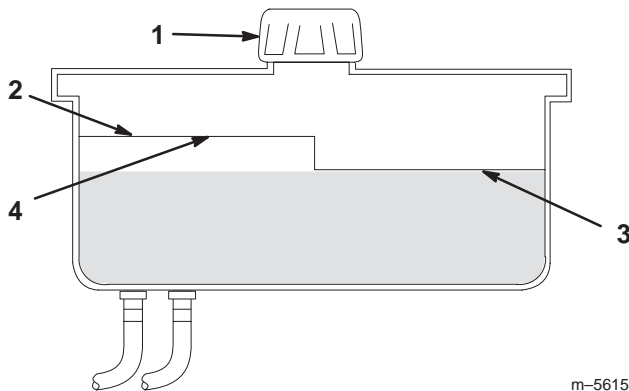

Figure 49
2. Clean area around filler neck of hydraulic tank (Fig. 49).
3. Remove cap from filler neck. Look inside to check if there is fluid in the reservoir. (Fig. 49).
Note: The fluid level should be to the top of the *hot* level of the baffle, when the fluid is warm (Fig. 49).